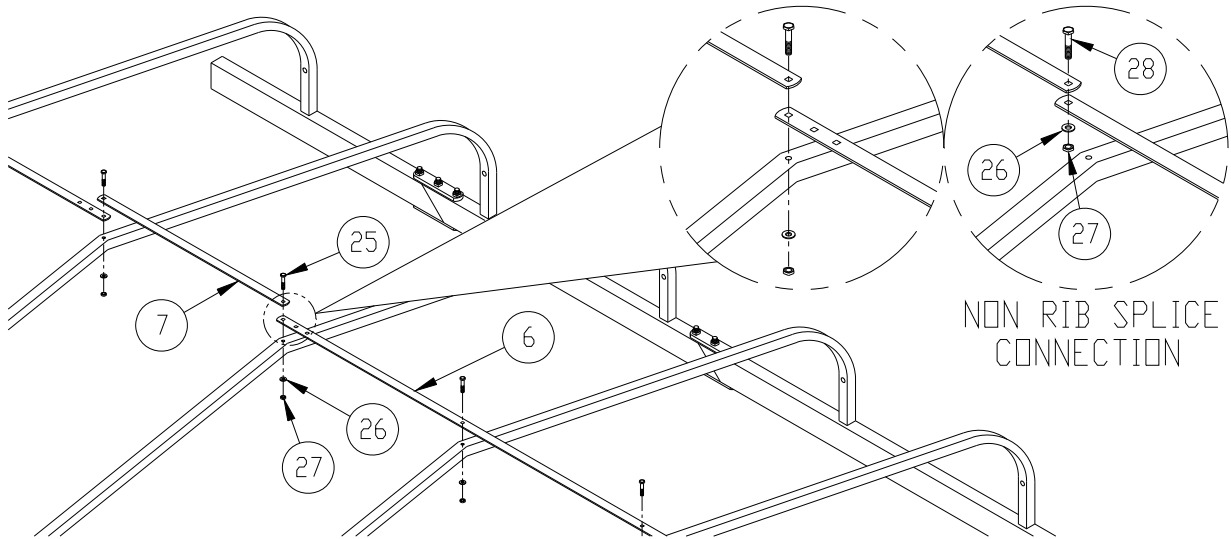

Figure 2-8.
10. Refer to **Figure 2-8**. Assemble (2) end and (1) mid center band on top of the ribs with hardware shown. This will provide a uniform lay of the fabric. At center band, splice connections that do not meet at a rib. Use shorter hardware shown.